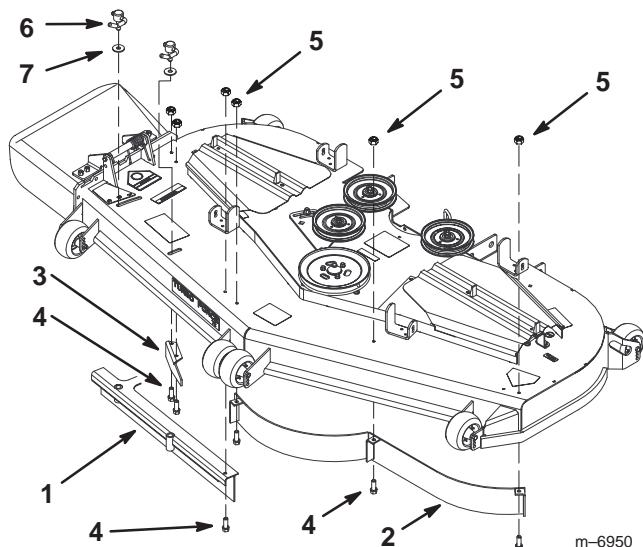

Figure 2
Note: 72 inch mower is shown in Figure 2.
1. Remove the cam locks, washers, and the nut and bolt from the adjustable flow baffle (Fig. 2).
2. Remove the bolts and nuts holding the left baffle in place (Fig. 2).
3. Remove the bolts and nuts holding the discharge baffle (Fig. 2).